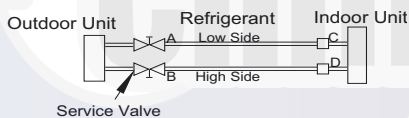

Fig. 12 — Service Valve
1. Completely tighten flare nuts A, B, C, D, connect the manifold gage charge hose to a charge port of the low side service valve (see Fig. 12).